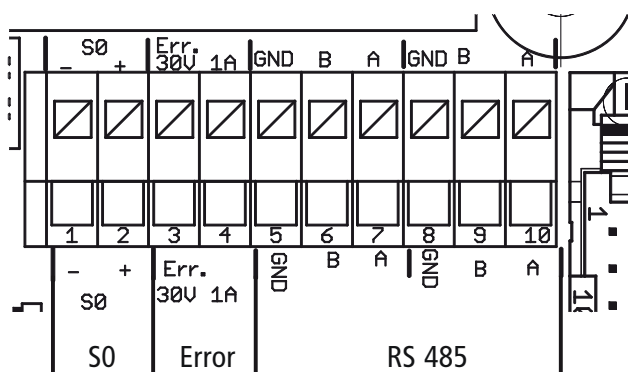

Figure 25: Interface terminals
3. Connect the connection cables to the corresponding connection terminals (see Figure 25 on page 28).